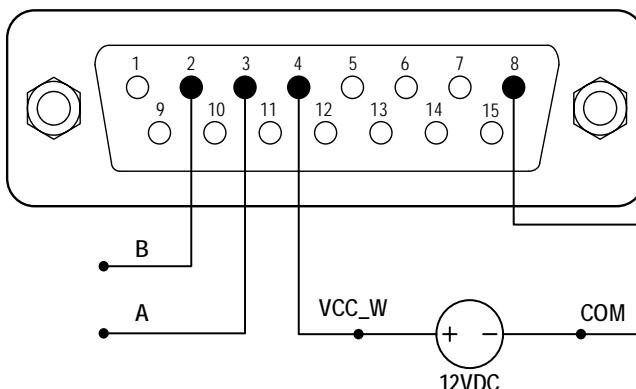

Figure 18. RS485 MODBUS Wiring
- When the power is off, wire the DB15 connector as shown in Figure 18, and connect it to the DB15 port on the rear of the pump. An external DC power source is recommended to avoid electrical interference.